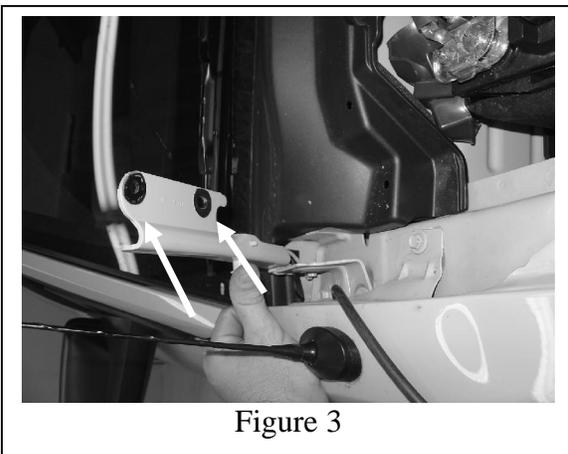

Figure 3
3. Have someone help you hold the back of the hood up. Remove the four bolts attaching the hood to the hinges using the ¼" drive air ratchet with a 10 mm socket. **BE CAREFUL** when you remove the screws the hood **WILL** fall and crack the windshield – have someone help you hold the hood! **(FIGURE 3)**